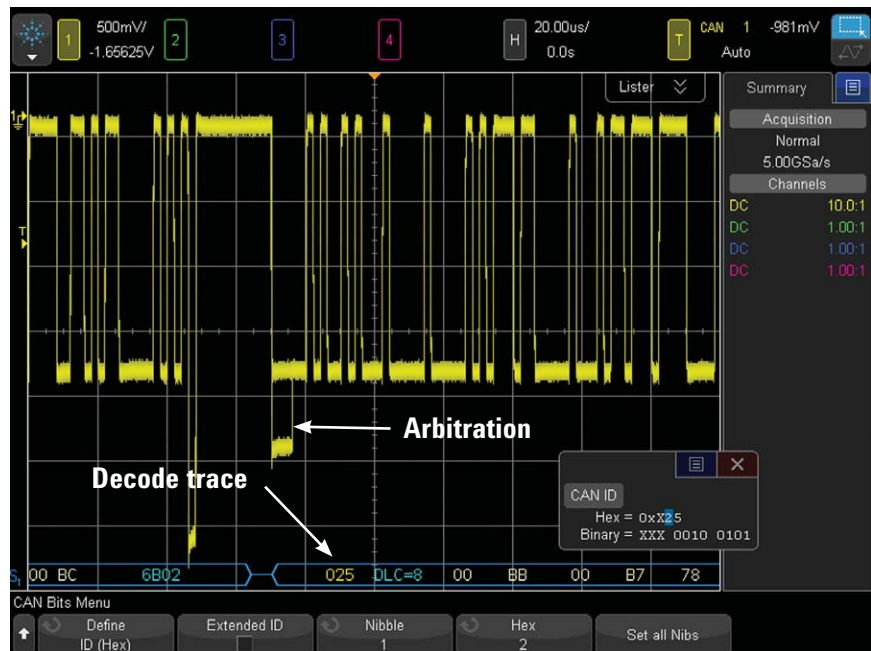

Figure 10: Triggering on a serial CAN frame that sometimes includes arbitration.
As mentioned earlier, InfiniiScan Zone Trigger can be used in conjunction with more complex triggering, including serial bus triggering. Figure 10 shows an example of the scope triggering on a Controller Area Network (CAN) bus data frame with an ID equal to  $025_{\text{HEX}}$ . Note that you can observe the time-correlated decode trace near the bottom of the scope's display, which begins with the frame ID (025).
In Figure 10 we can see that the first pulse in frame  $025_{\text{HEX}}$  exhibits two different low-level amplitudes; sometimes it's low — and sometimes it's lower. When the signal goes to the lowest level, this is evidence that two nodes are attempting to transmit data at the same time and arbitration begins. When this pulse pops back up, this indicates that the arbitration process has finished and frame  $025_{\text{HEX}}$  won the priority battle.